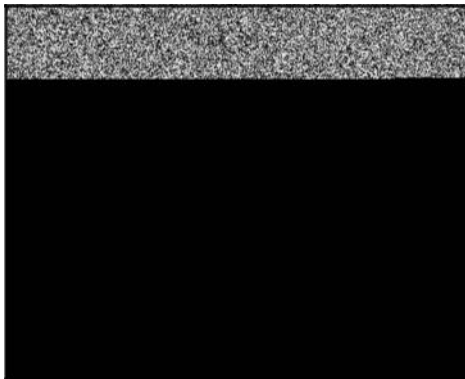

Figure 27
2. Remove the float hinge pin (C, Figure 27), float (A), and inlet needle (B). If the needle has a metal tip, also remove the soft needle seat in the carburetor body. Discard the hinge pin, inlet needle, and seat.